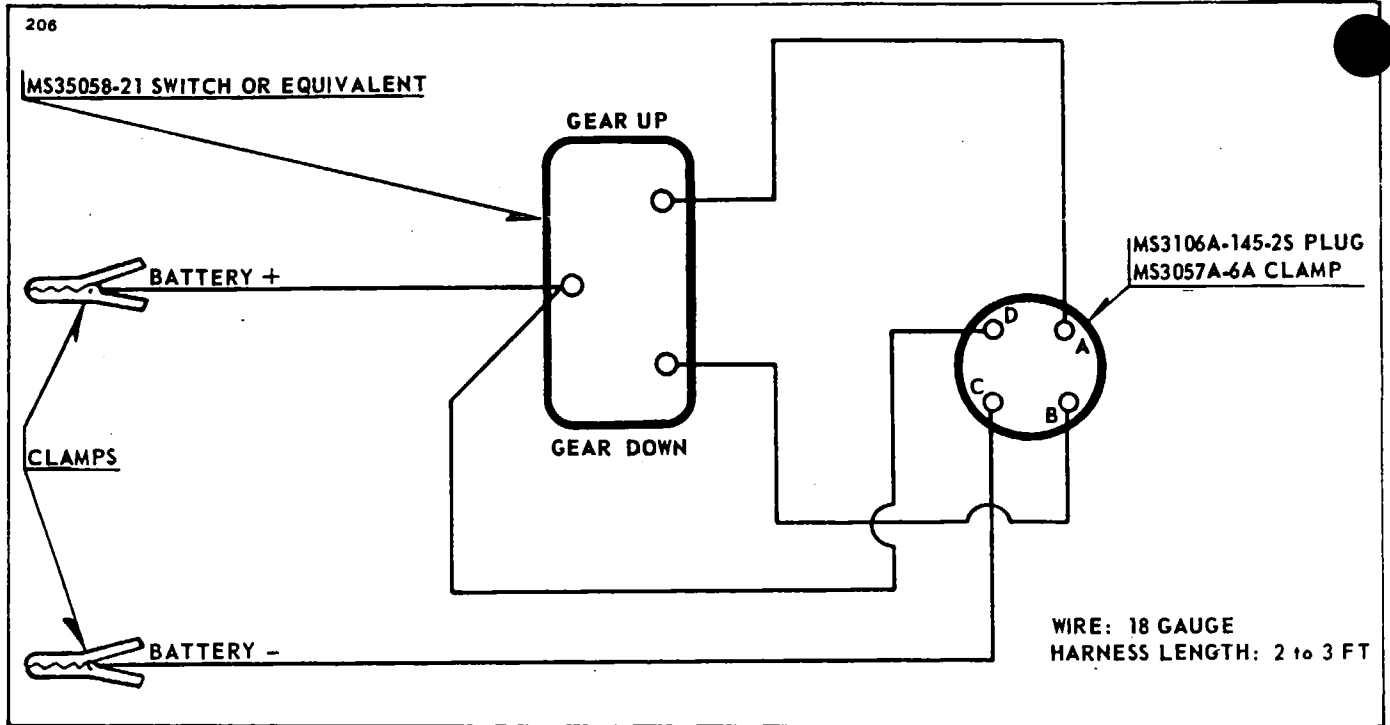

Figure 29-11. Power Pack Test Harness Schematic
For the control of the door valve solenoid, it will be necessary to fabricate an electric harness as shown in Figure 29-11. This harness, when connected to a 24-volt battery will allow control of the electrical current to the door valve solenoid, permitting operation of the hydraulic door circuits.
2. Connect a test harness to the electrical plug of the power pack and to power source. (Test harness may be fabricated as shown in Figure 29-11.)